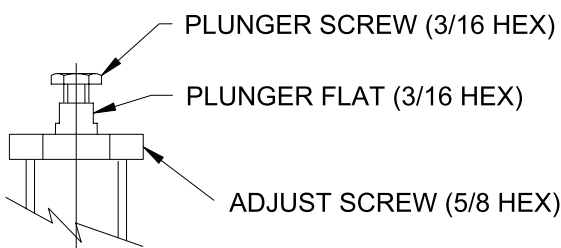

Figure 7
2. Turn 5/8" hex adjustment screw clockwise (left), to approximately midrange. This puts a load on the sensor and exposes the plunger flats. (See Figure 7).